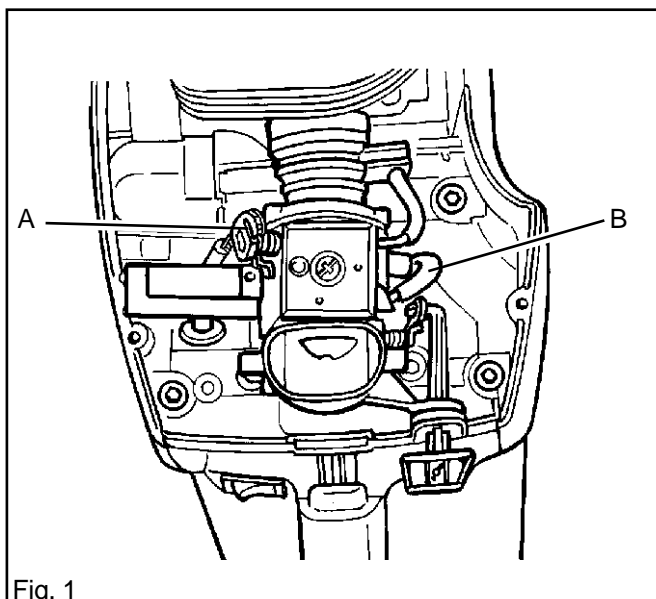
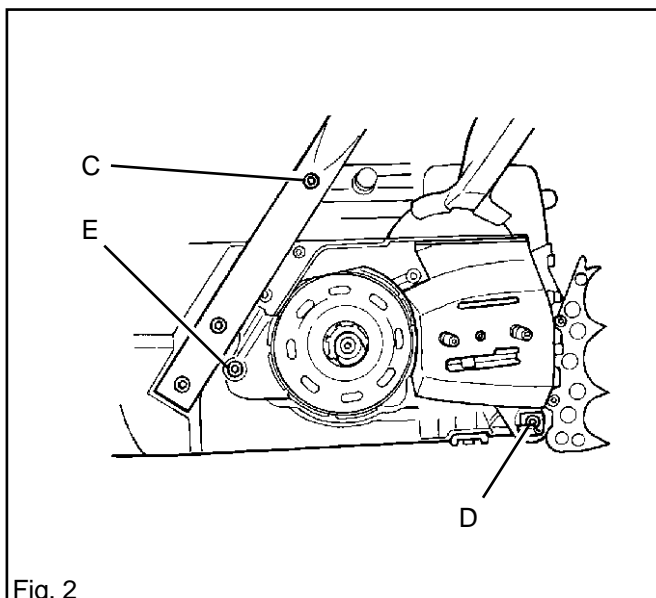

Fig. 1
Fig. 2
3. Disconnect the throttle cable (A) from the carburettor and push out the cable outer from its location. See fig. 1.
4. Remove the fuel pipe (B) from the carburettor.
6. Remove the bolts (C and D) and the travel limiter bolt (E) on the clutch side. See fig. 2.